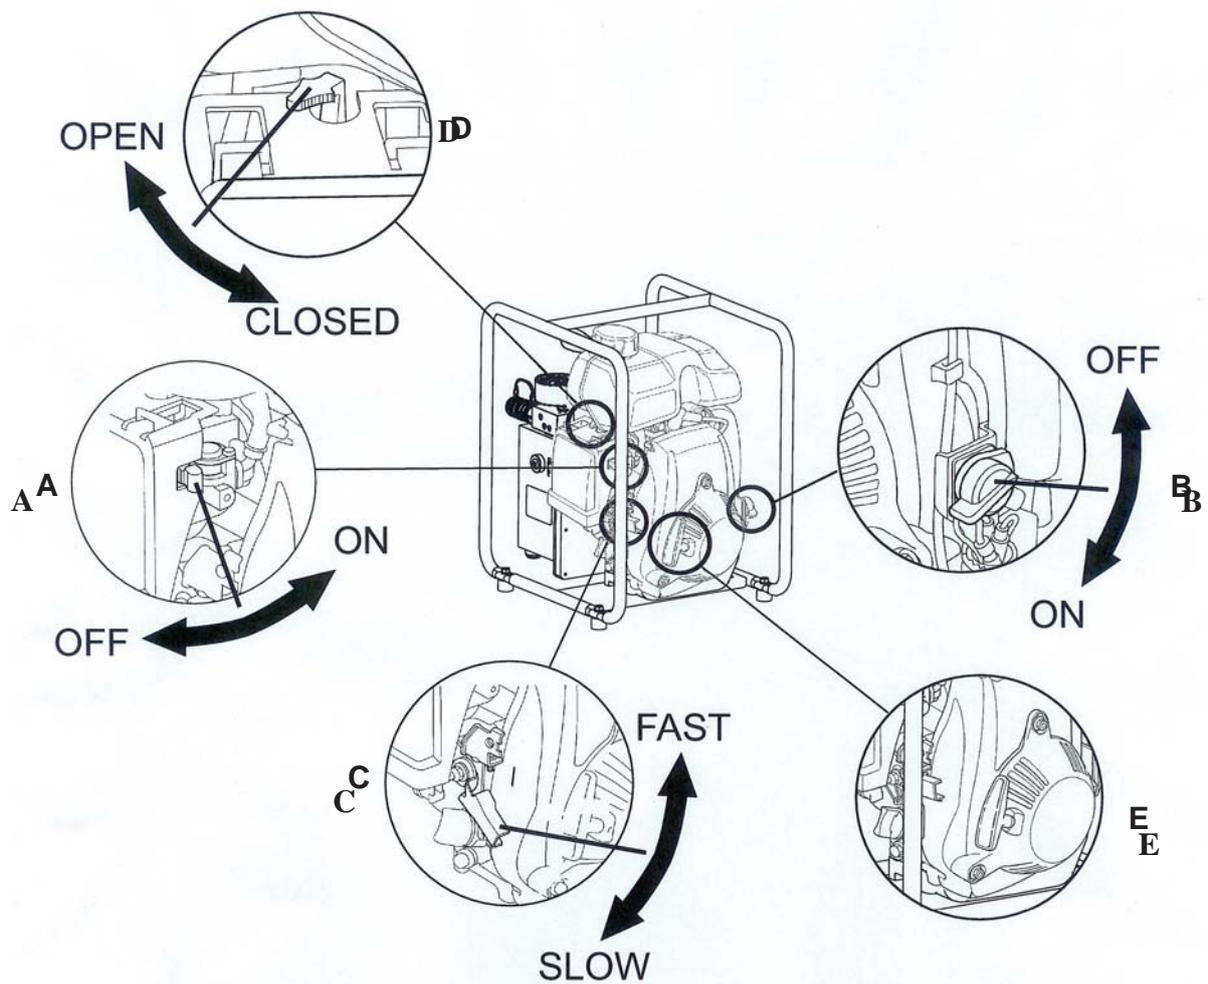

Fig. 8
3. Open the fuel valve (Fig. 8, A).
2. Set the throttle to minimum and let the engine idle for a few seconds (Fig. 8, C).